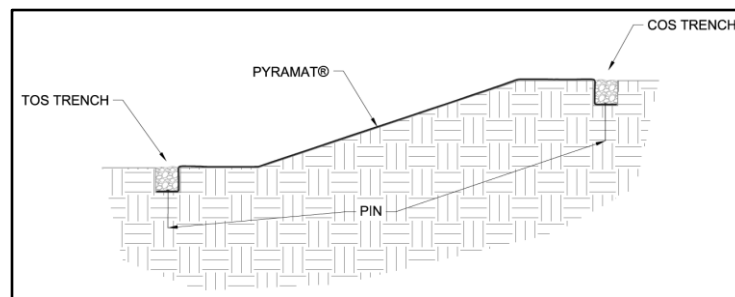

Figure 12: Crest of Slope (COS) Trench and Toe of Slope (TOS) Trench Complete
1. Begin the *PYRAMAT LAYDOWN* process by starting with the downstream / downwind end of the site. To ensure proper pinning of the overlapped areas the proceeding roll width must be laid out before the current roll width can be pinned with exception to the final roll width. For straight sections of a slope, PYRAMAT panel lengths should be long enough to construct COS and TOS trenches while also covering the surface of the slope being armored (Figure 12). Panel edges should rest approximately perpendicular to the slope center line. For best results, panels of PYRAMAT should be continuous and free from seams or roll end overlaps that are parallel to the centerline of the slope. Panel edge overlapping should follow a pattern of placing each proceeding panel's edge overtop the previous panel edge, shingling the panels in the direction of the water flow or prevailing wind.
7. Secure PYRAMAT with pins in the TOS trench. Suggested placement of pins for the TOS trench is along the bottom of the trench with pins on 12 in (300 mm) centers (Figure 12).
8. Backfill and compact the TOS trench. (Figure 12)